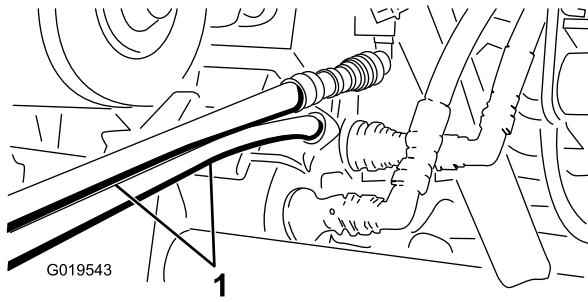

Figure 67
5. On the other machine, connect the 2 hoses to the coupler still in the coupler bracket (connect the top hose to the top coupler and the bottom hose to the bottom coupler) (Figure 67).